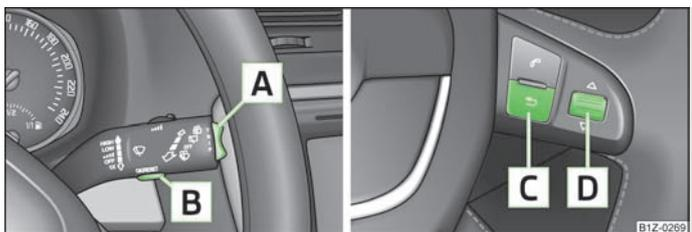

Fig. 7 Information display: Control elements on the windshield wiper lever/
- > You can activate the **Main menu** by pressing the rocker switch  » Fig. 7 for more than 1 second.
- If warning messages are shown in the information display, these messages must be confirmed with the button  » Fig. 7 on the windshield wiper lever or with the button  on the multifunction steering wheel to call up the main menu.